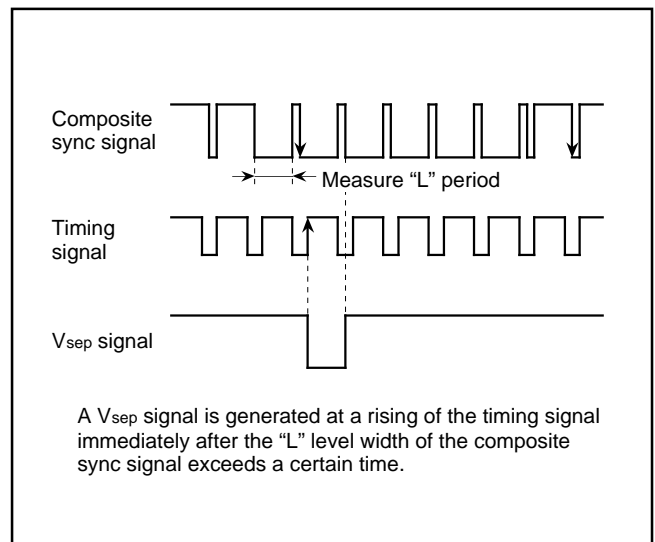

Fig. 36. Vsep Generating Timing (method 2)
- Method 2 The "L" level width of the composite sync signal is measured. If this width exceeds a certain time, it is detected whether a falling of the composite sync signal exists or not in the "L" level period of the timing signal immediately after this "L" level. If a falling exists, a V_{sep} signal is generated in synchronization with the rising of the timing signal (refer to Figure 36).
Figure 36 shows a V_{sep} generating timing. The timing signal shown in the figure is generated from the reference clock which the timing generating circuit outputs.